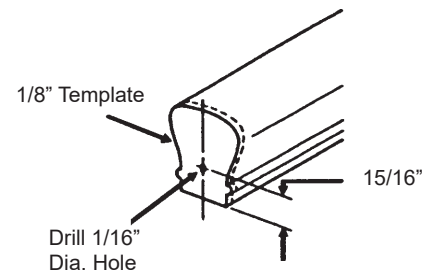

Fig. 1
1. Center and drill a 1/16" hole 15/16" up from the bottom of the rail and fitting as shown in Fig. 1